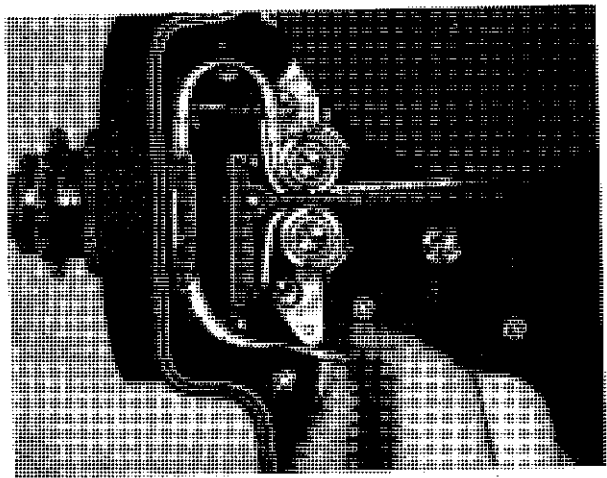

Figure 6
6. Place the leader in the film gate channel, as in Figure 6, leaving enough slack above to form the upper loop, the extreme top of which should be about $\frac{1}{4}$ inch from the metal camera shell.